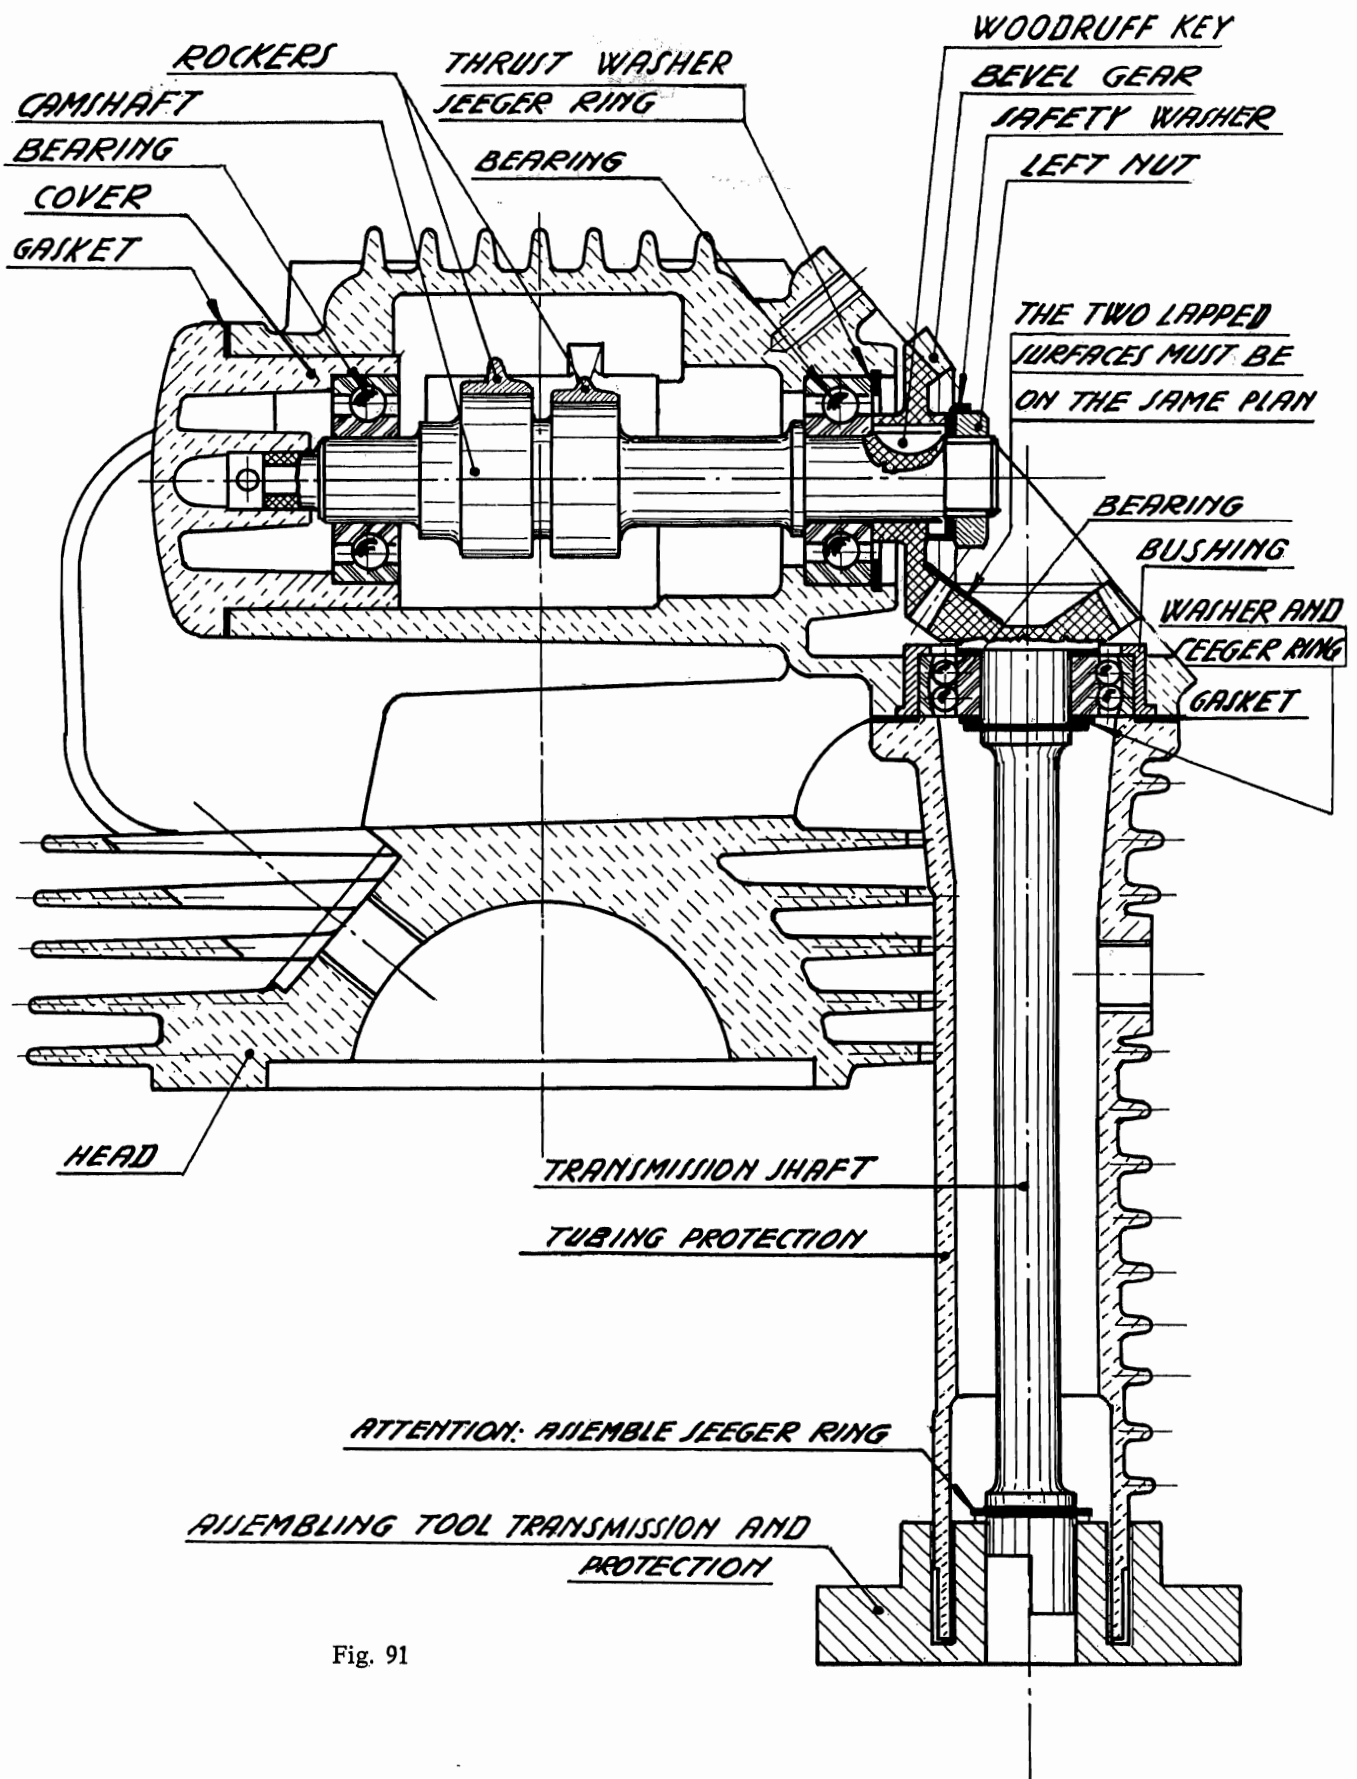

Fig. 91
The foregoing operation must be carried out with the head resting on a raised surface and by inserting tool (91), shown in the picture, into the free end of the drive cover, to ensure the centering of the drive with the upper bearing (see Fig. 91).
Lock the camshaft securing nut by turning part of the washer under the nut, onto one of its flats. Fit the Seeger ring on the end of bevel gear shaft at the lower end of the drive cover. (See Fig. 91, page 87. The Seeger ring can be fitted before the drive assembly is attached to the head. However, it is most important not to forget this ring, otherwise the consequences may be serious).